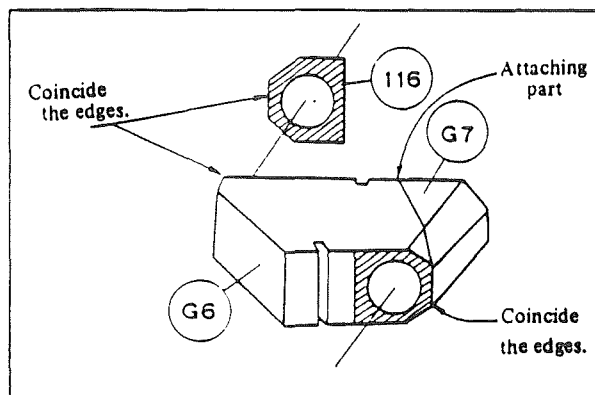

Fig. 19
- 9) Stick prism (G8) to righteye sleeve (106), using No. 2001. Apply this adhesive in a ring all around the top edge of (G8), and inserting (G8) into (106), rotate it several times.
- 10) Attach (106) to prism base (102) with washer (144A) and screws (143A) x2 transitorily. Thereafter, screw in cover ring (107) into (102). (After positional adjustment, stick it with No. 350)
- 11) Attach lefteye sleeve (105) to prism base (103) with washer (144A) and screws (143) x2 transitorily. Thereafter, screw in (107) into (102). (After adjustment, stick it with No. 350)
- 12) Stick plates (116) x2 to light incidence and exit surfaces of (G6), (G7) with adhesive No. 2002. Apply the adhesive in a ring onto the attaching surfaces of the stop plates. After about 30 minutes, attach them to the prisms. Apply black paint to the groove and attaching parts as shown in Fig. 19.